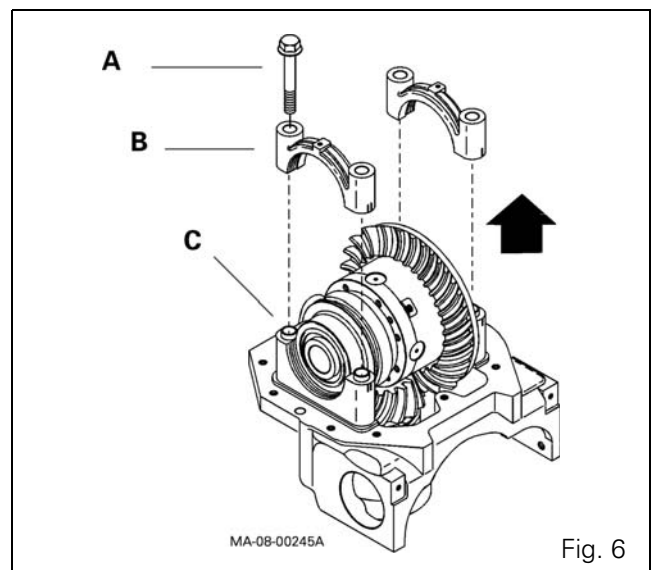

Fig. 6
11. Remove the 4 screws A and the two half-bearings B. Check that rings C stay in place in their seatings (Fig. 6).